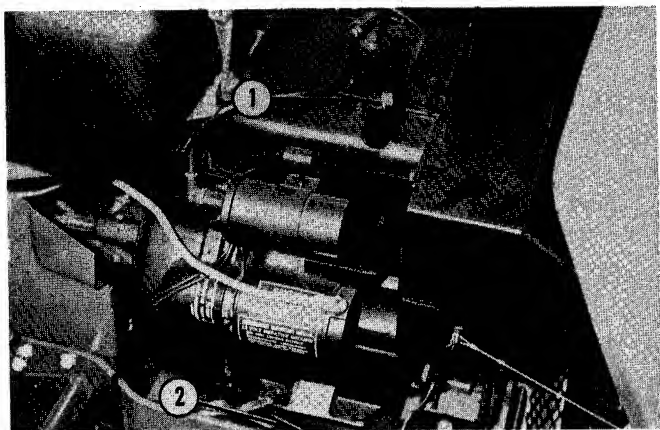

Fig. 8 — Engine Crankcase Lubrication
1. Remove dipstick, No. 1, Fig. 8, wipe carefully with clean cloth, then replace in filler hole, pushing it all the way in. Remove and check oil level. If not to full mark, fill to this point. **DO NOT OVER-FILL.** Use only lubricants recommended in "Lubrication" Section. With proper oil level, dipstick will indicate excessive oil level when dipstick is removed after stopping engine. Wipe off and reinsert dipstick and remove again to check.